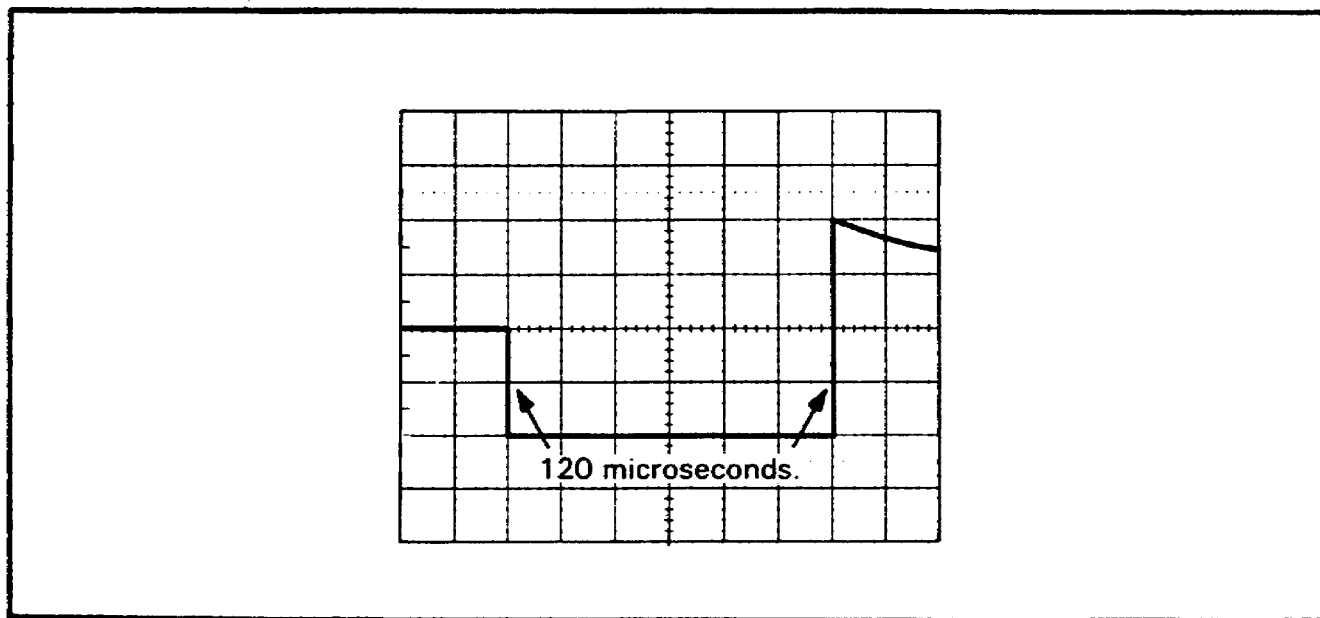

Figure 51. Adjustments of delay R6807 and delay gate.
j. Adjust the B-trigger delay R6807 while observing the oscilloscope and adjust the delay gate for a pulse width of 120 microseconds. (See Figure 51.)
t. Adjust the B-trigger delay adjust R-6807 for 120 microseconds while observing oscilloscope AN/USM-281. (See Figure 51.)